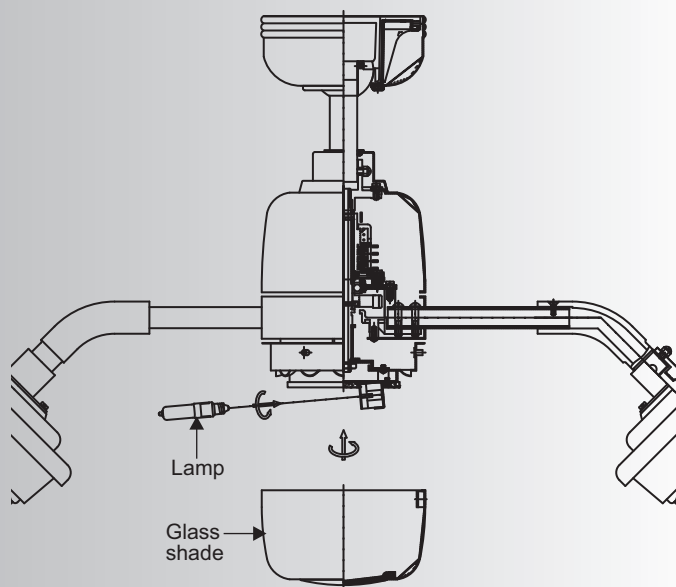

Fig. 18
Hold the light kit close to the mounting plate and connect the white wires from the light kit and the fan. Follow the same procedure with the black wire connectors. (Fig. 18)
Step 2. Tuck the connections neatly into the mounting plate. Place the key holes on the light kit over the 2 screws previously loosened from the mounting plate, turn the light kit until it locks in place at the narrow section of the key holes. Secure by tightening all three screws. (Fig.18)
Step 2. Raise the glass shade against the light kit and turn clockwise until snug, **DO NOT OVERTIGHTEN.** (Fig. 18)